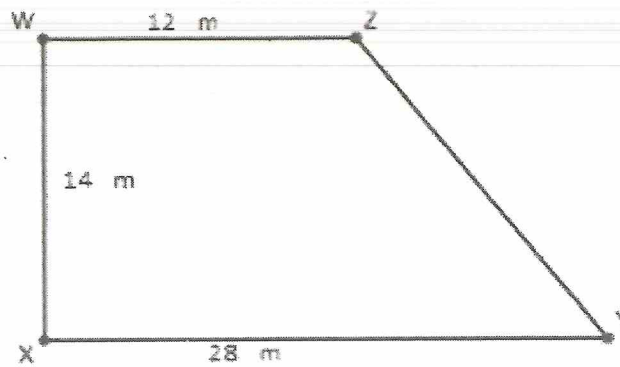

Figure 1
7. Locate the center of mass for the plan shown in figure 1. The mass on the whole floor is  $1100\text{kg/m}^2$ . (C.O.No.1) [Knowledge]